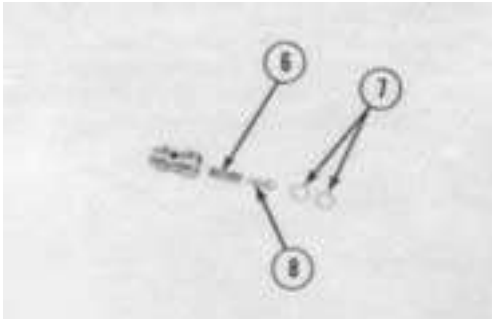

FIGURE 7-11
- Remove the rings (7, Figure 7-11), poppet (8), and spring (6).